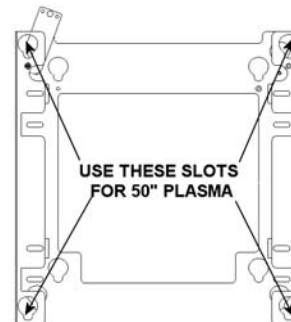

Figure 10
5. Raise safety latch to secure plasma in place (see Figure 10).